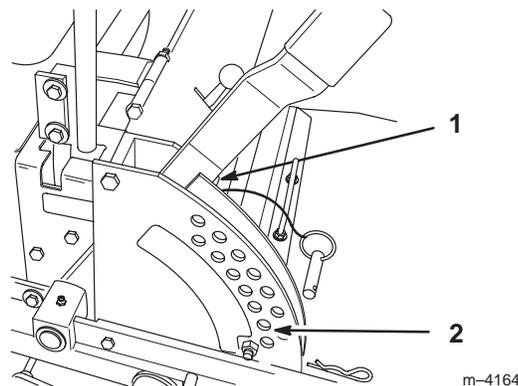

Figure 46
2. Check tire pressure of all four (4) tires. If needed, adjust to 13 psi (90 kPa)
4. Raise the deck to the transport position and take all force off of the two large deck lift springs by loosening nut in front of each spring (Fig. 46).
5. Place two 1-1/2" (38 mm) thick blocks under rear left and right lower edge of mower. Place one 2-1/4" (57 mm) block under front center lower edge of mower. Lower mower to the 2" (51 mm) height-of-cut position (Fig. 46).
1. Raise deck lift lever to the transport position, (Fig. 46).